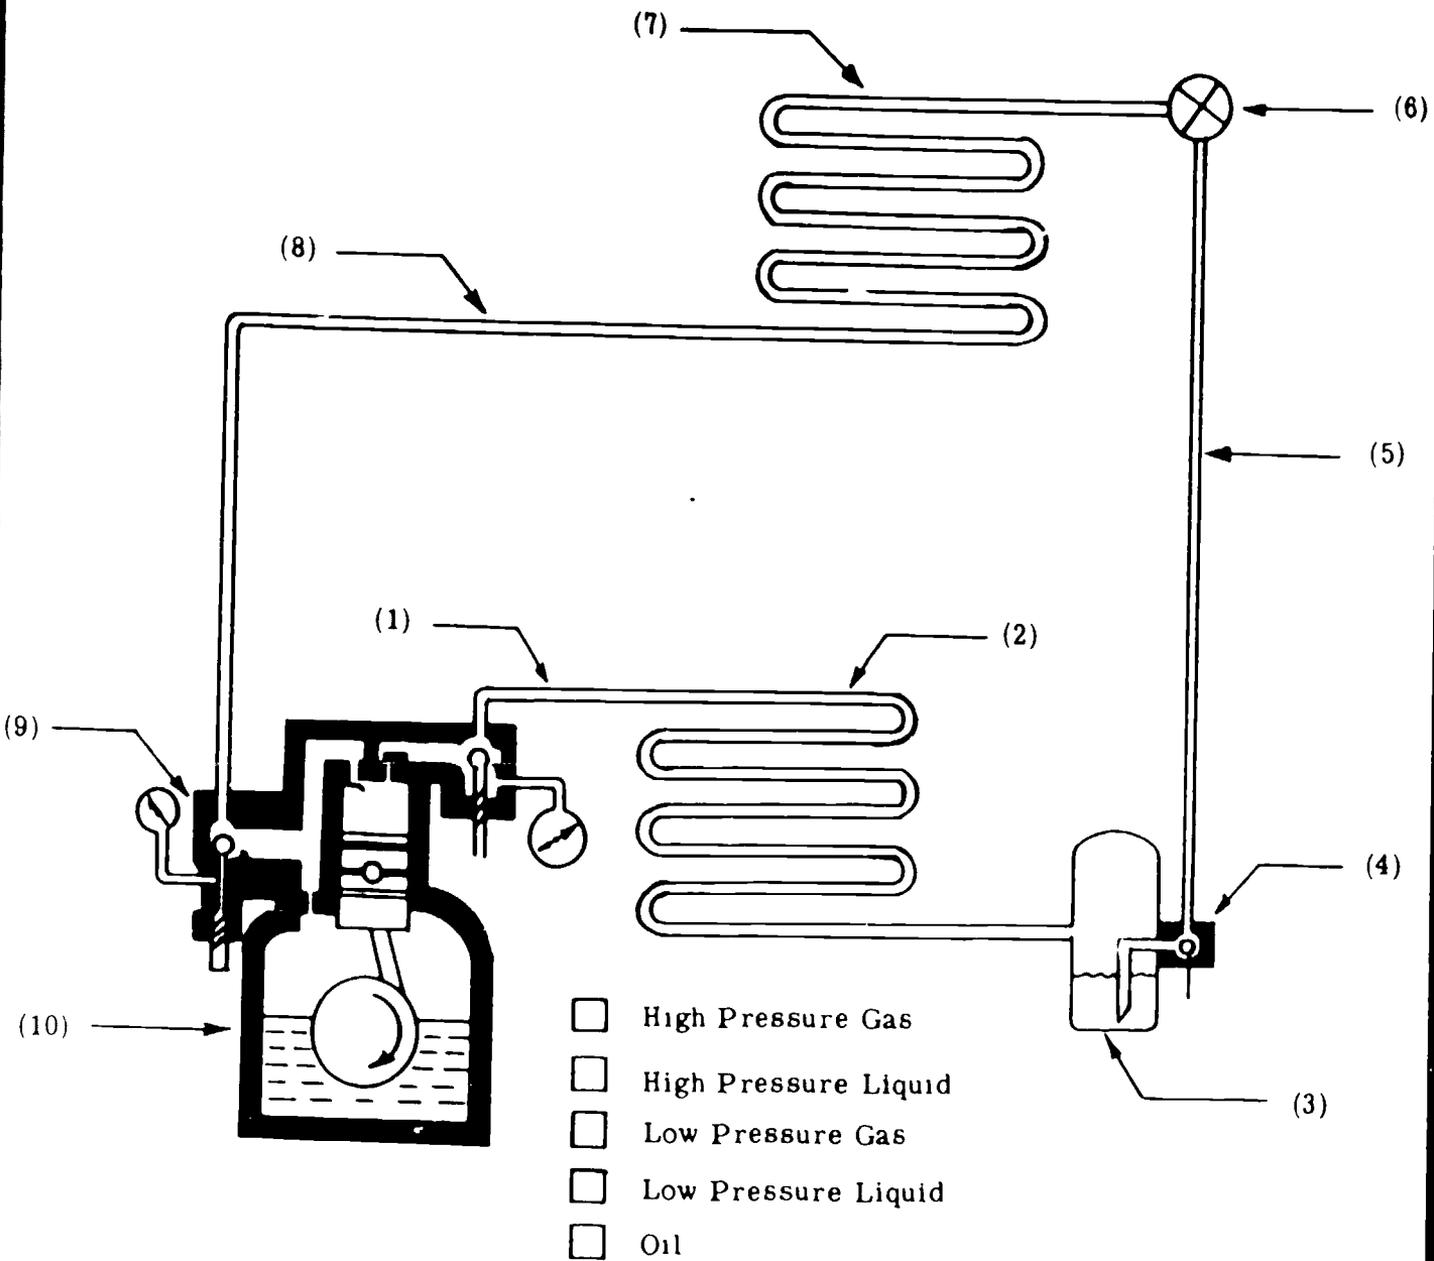

Figure 3.
1. Color figure 3 as directed by your instructor.